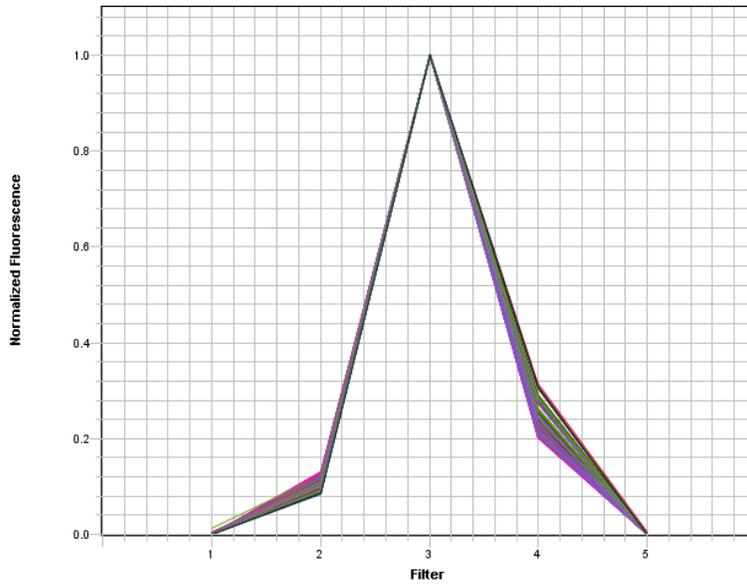
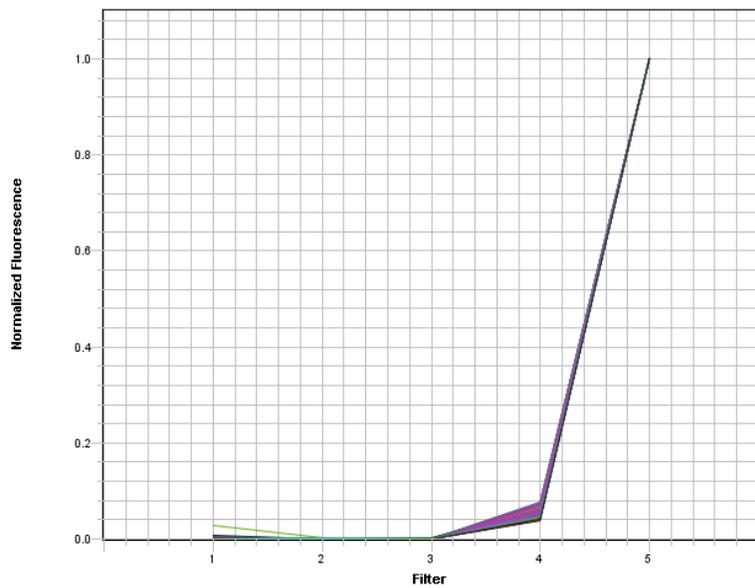

Figure 31 ABY™ dye spectra
Figure 33 MUSTANG PURPLE™ (MP) dye spectra
Figure 31 through Figure 33 show the calibration spectra for ABY™, JUN™, and MUSTANG PURPLE™ (MP) dyes.